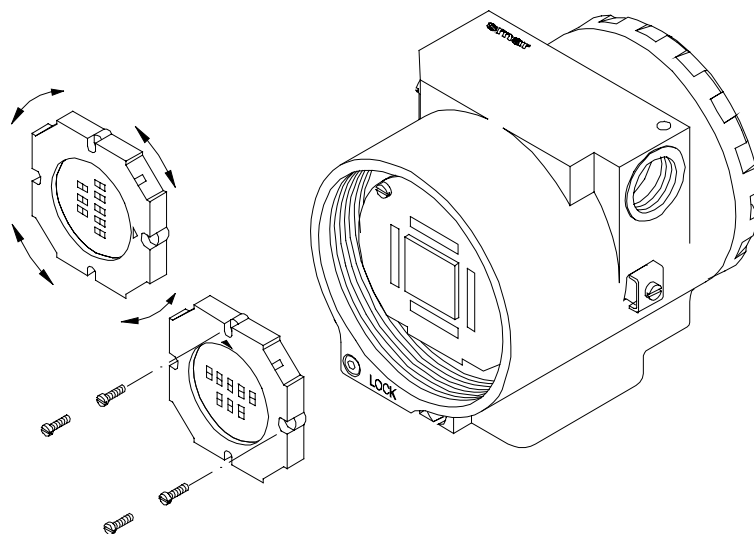

Fig. 5.4 – Four Possible Positions of the Display
Plug sensor connector and power supply connector to main board. If there is a display, attach it to the main board by means of 4 screws (3). The display can be installed in any of the 4 possible positions (See Fig. 5.4).